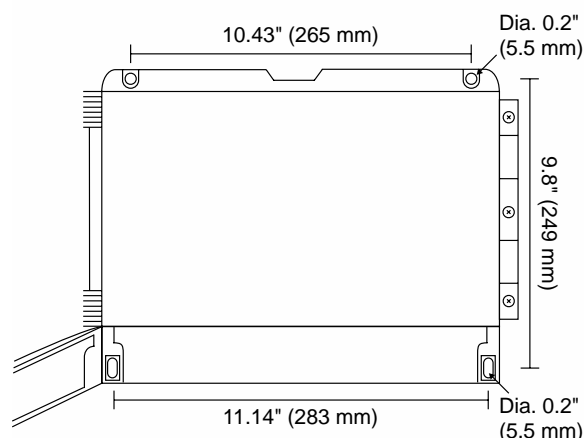

Figure 2. Scanner Mounting Holes Dimensions
- Select the appropriate mounting screws for the mounting surface to be used. The mounting holes diameter is shown on *Figure 2*.